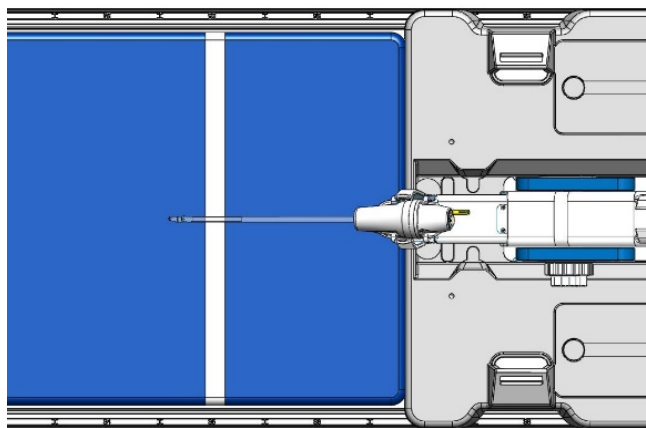

Figure 16: Centering and aligning the coils with the prostate
2. Position the patient on the MRI bed in a head-first supine position so that their sagittal midline is centered from left to right on the MRI table, and their prostate is centered within the treatable area (*Figure 16 [Your configuration might not match exactly as shown]*).